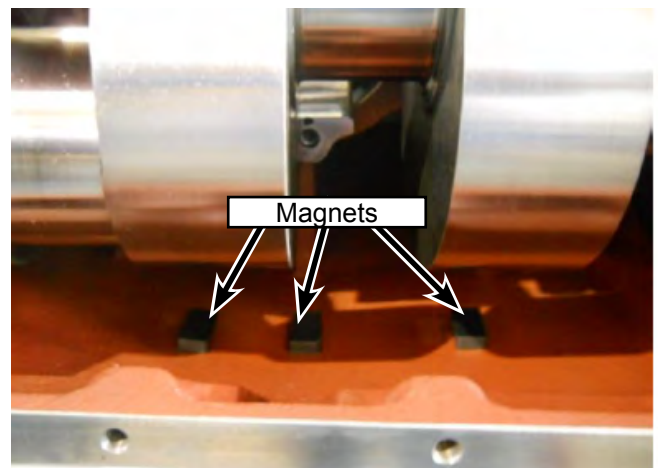

Figure 107: Inspect Magnets for Metal Shavings.
6. Remove the back cover plate and inspect the magnets at the bottom of the pump for metal shavings or filings. Clean the magnets (Figure 107). If excessive shavings or filings were present, inspect the crankshaft journal bearings.